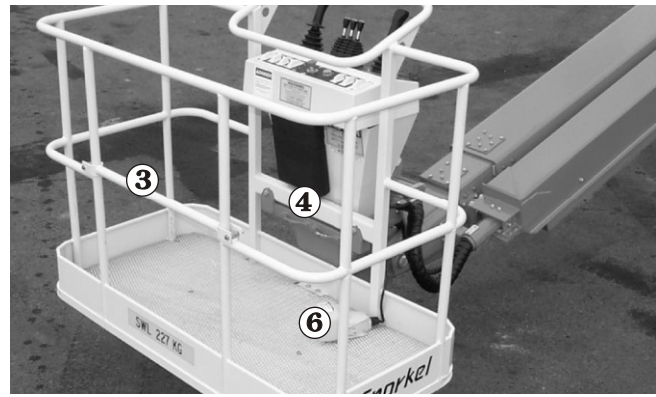

Figure 7.2—Platform
3. Enter the platform and securely close the gate③ (refer to Figure 7.2).
4. Attach the fall restraint lanyard to one of the anchor points④ (refer to Figure 7.2).
7. Step down on the platform foot switch **6** (refer to Figure 7.2 and 7.5).